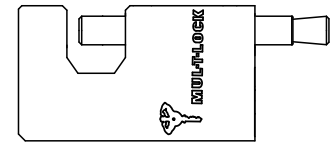
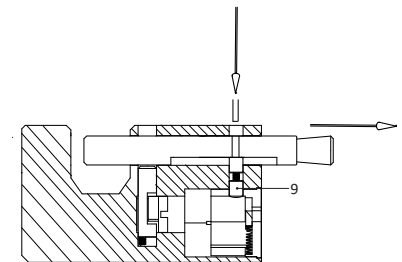

Fig 8
Fig 8a
Unlock padlock with operating key. Pull the bolt (Fig 8) until holes in the bolt and lock body are parallel (Fig 8a). Use a small tool to press the pins (9) and remove the bolt by pulling it out carefully.